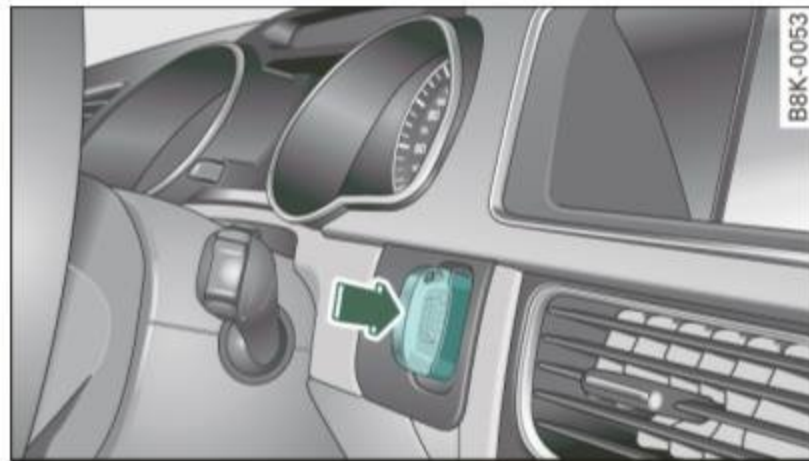

Fig. 118 Ignition key
- **Press** the key ⇒ fig. 118 - the engine will start.